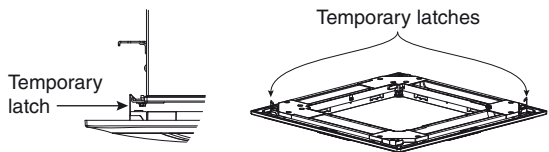

Fig. 7-7
- (1) Hang the temporary latches on the inside of the ceiling panel to the receptacle on the unit to temporarily attach the ceiling panel in place. (Fig. 7-7)
- To remove the ceiling panel, support the ceiling panel while pressing the temporary latches toward the outside. (Fig. 7-7)